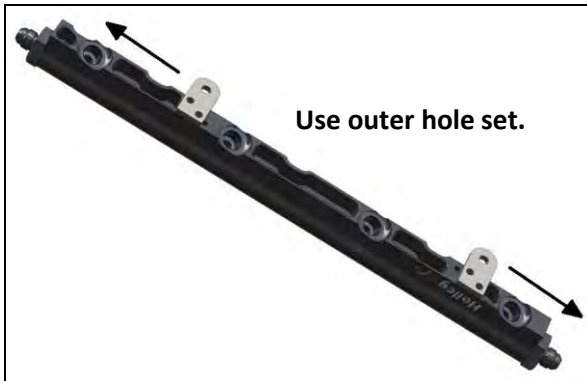

Figure 4 - Bracket placement
- Use brackets 49R3142 for LS2, LS3, LS6 & L99 applications (**Figure 4** bracket placement)
When using optional kit P/N 534-212 to allow the upgrade to tall performance injectors (use **Figure 4** bracket placement for both):